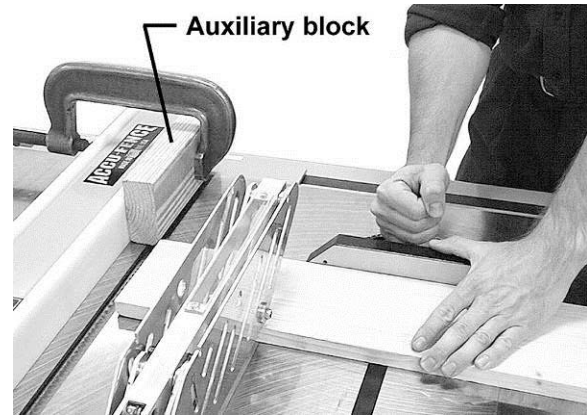

Figure 30
- Do not use the miter gauge and rip fence in the same operation unless provision is made by use of a facing board on the fence so as to allow the cutoff section of the workpiece to come free before the next cut is started (see Figure 30).
Crosscutting should **never** be done freehand nor should the fence be used as an end stop unless an auxiliary block is clamped to the front of the blade area such that the cutoff piece comes free of the block before cutting starts (Figure 30).